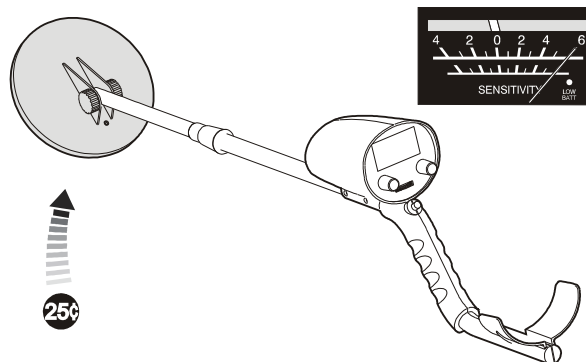

Figure.13
- Let the silver coin approach the search coil slowly, the meter pointer will deflect to the right, and the sound will turn loud. (Figure.13)